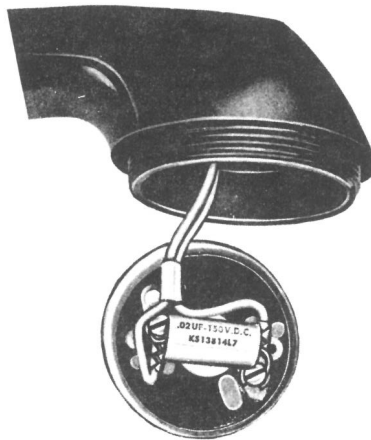

FIGURE 16. KS-13814, List 7 Capacitor, Handset Receiver Unit
- 7.07 The KS-13814, List 7 *capacitor* may be used to bypass the 44A varistor on a U1 receiver unit as shown in Figure 16. Place the capacitor against the varistor, keeping the capacitor leads as short as possible.